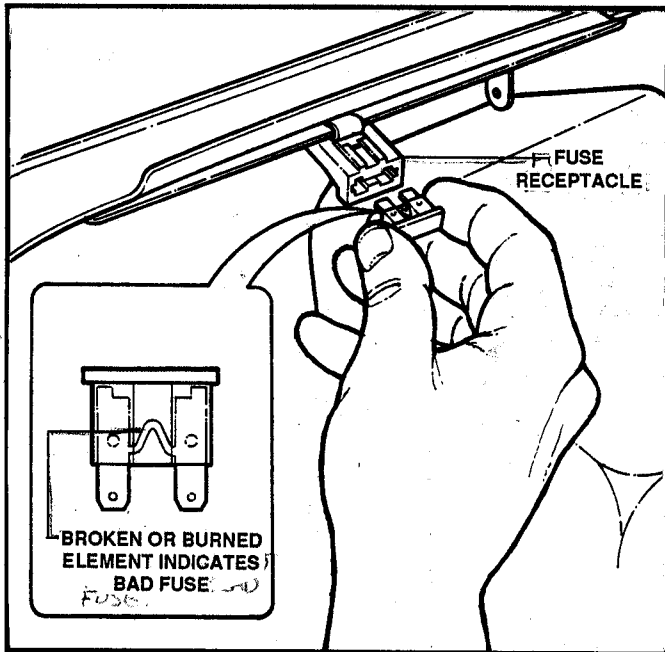

FIGURE 6.6
1. Should the Key Switch pass all the Key Switch tests, check the in-line fuse. See Figure 6.6.